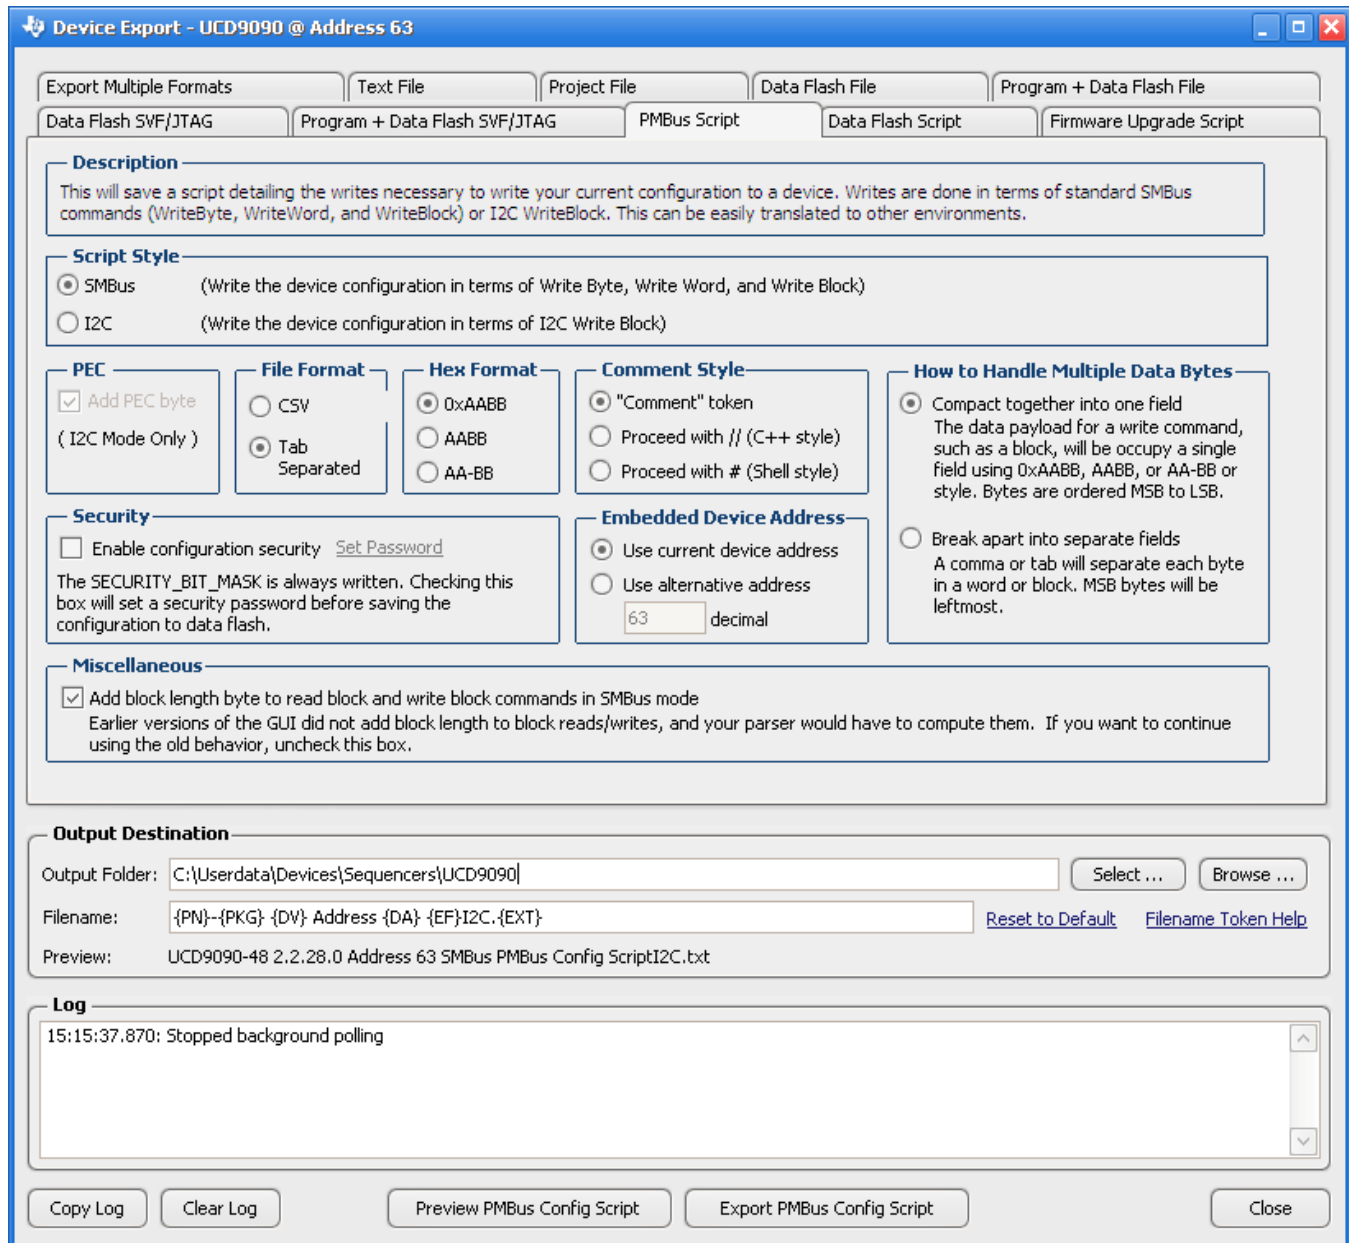

Figure 29. Fusion GUI PMBus Configuration Script Export Tool
2. The *Fusion GUI* (Figure 29) can create a PMBus or I²C command script file which the I²C master can use to configure the device.